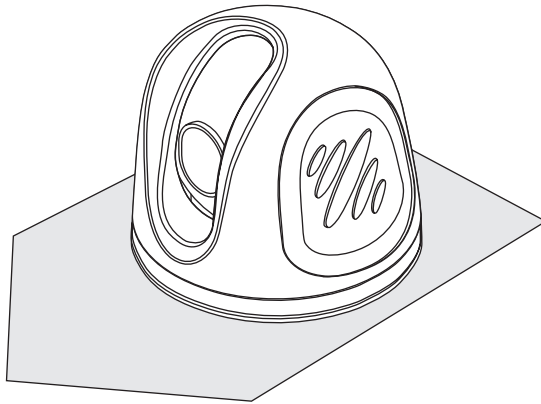
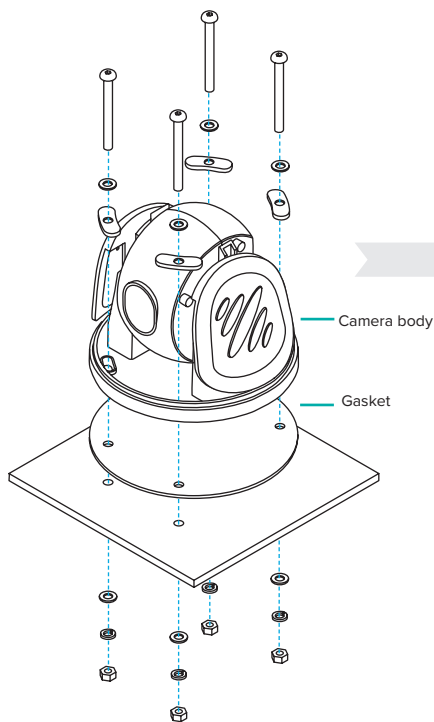

Fig. 3
Fig. 4
1. Take note of the orientation of the Camera and place the base forward-facing relative to the bow of your vessel (Fig. 3). There is an arrow mark at the base of the Camera indicating the forward-facing of the Camera for installation. In most cases, this arrow should point towards the general direction of the vessel's bow.
3. Place the Camera base over the screw holes and secure the Camera with M5 screws, washers, spring washers, and nuts (Fig. 4). If using self-tapping screws, secure the camera with screws type #10 and washers (Fig. 3).